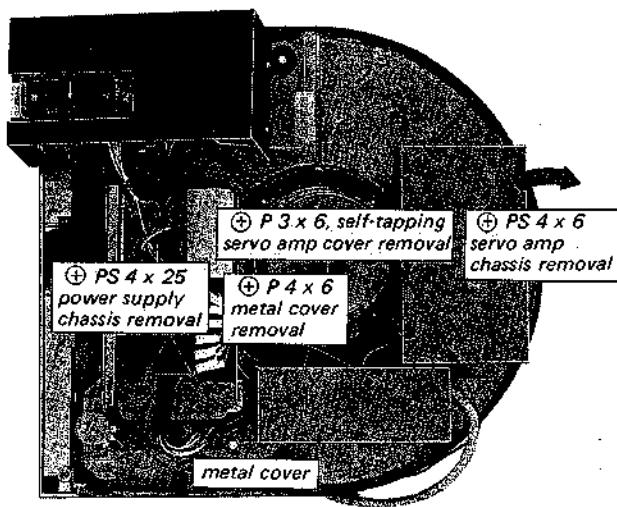

Fig. 2-5. Bottom view
2. Remove the four screws (\oplus PS 4 x 6) securing the chassis to the turntable base as shown in Fig. 2-5. This frees the chassis.
2. Remove the two self-tapping screws (\oplus P 3 x 6) securing the servo amplifier cover as shown in Fig. 2-5, and then slide it in the direction shown by the arrow as illustrated. This frees the cover.
3. Remove the three screws (\oplus PS 4 x 25) securing the chassis to the turntable base or the bracket, as shown in Fig. 2-5. This frees the power supply chassis.
2. Remove the two self-tapping screws (\oplus P 4 x 6) securing the metal cover over the terminal strip as shown in Fig. 2-5.